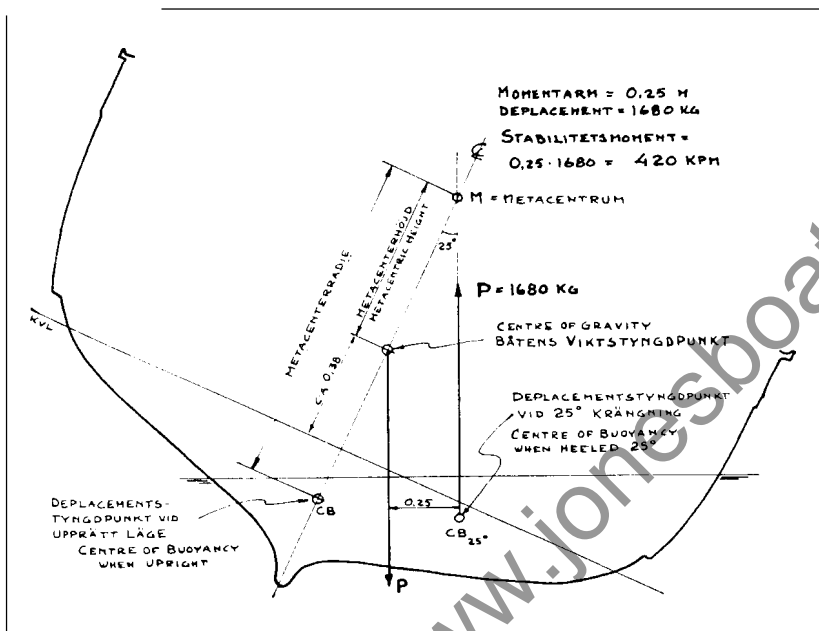
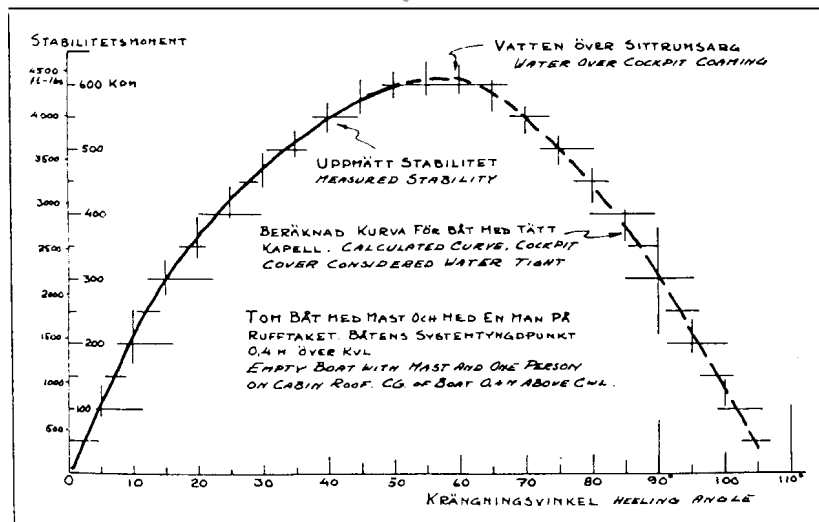

Fig. 4. Section showing stability moment.
Fig. 5. Stability curve.
If the power and length of a motorboat are increased the speed is increased, but if the weight (displacement) is increased, there is a loss of speed. The Albin 25 has been designed around its engine to produce the most efficient boat, obtaining the best speed with available power. This means that the boat must be light. Therefore the necessary stability is achieved by means of a suitable hull shape — giving form stability. Fig. 4 shows just how the force of gravity (P) works from the centre of gravity and how in a heeled position a similar force works vertically up from the centre of displacement. If we multiply displacement (P) (in this case 1680 kilograms) times the length of the moment arm (distance 0.25 metre between the two forces) we get the stability moment which is the "power" which will bring the boat back to an upright position. Heeling an Albin 25 up to 50 degrees (empty boat with mast and one person on the cabin top) the accompanying stability curve was measured a (fig. 5). For heeling angles larger than 50 degrees the stability moment has been calculated as shown. As a comparison the sailboat Vega has about twice as large a stability moment up to heeling angles of 50 degrees. A normally loaded Albin 25 weighs more than the test boat and also has a lower center of gravity. Because of this the loaded boat gains even better stability than the curve shows. It shows that the Albin 25 is as good as uncapsizable and that you can use rig and sail without any risk of capsizing. It also shows that ballast is not necessary from a stability point of view. Ballast decreases speed through increased weight and if the ballast is put deep into the boat it can also give a less comfortable movement to the boat.
Radius of inertia means the distance from the axis of rotation to a theoretical point where the mass of the boat is concentrated when rolling around this axis. The radius of inertia can be considered about the same as the length of a pendulum. The meaning of the meta-centric height is shown in fig. 4 which also shows that this height is a measure of stability. An increase or a decrease of the meta-centric height gives an increase or decrease of stability. Seemingly it is possible to lengthen the period of roll through decreasing the meta-centric height (the same as raising the center of gravity of the boat which is the
Increased stability is not necessary. This is clearly shown in the stability curve fig. 5. When the weight of the boat is increased with equipment, provisions etc., the stability is increased and much more so if everything is stowed deep down in the boat.